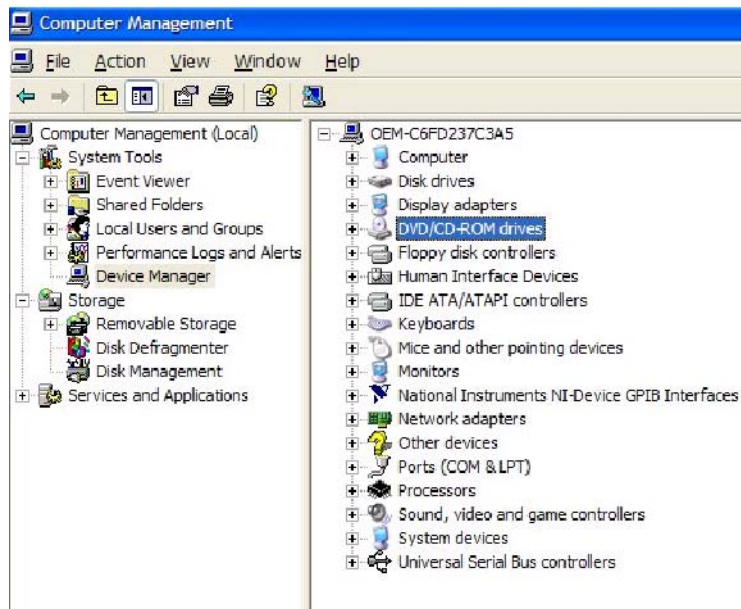

Figure 21: Verifying the presence of the DVD drive in the Device Manager
- 22. On the Windows desktop, right-click **My Computer** and select **Manage**. In the **Computer Management** window, locate **System Tools** and then select **Device Manager**. Verify that **DVD/CD-ROM drives** appears in the list as shown in Figure 21.